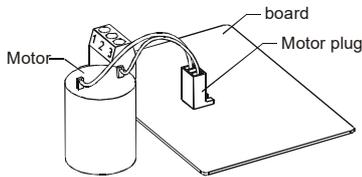

Fig. D-8: Motor plug
4. Check polarization of motor plug in the actuator. The noses must point away from the motor (refer to fig. D-8).